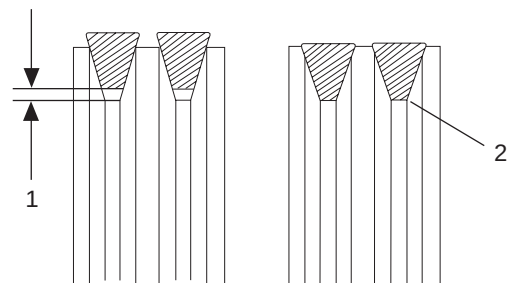

Figure 80
3. Tighten the V-belt to the proper tension. There must be clearance (1, Figure 80) between the V-belt and the bottom of the pulley groove. If there is no clearance (2, Figure 80) between the V-belt and the bottom of the pulley groove, replace the V-belt.